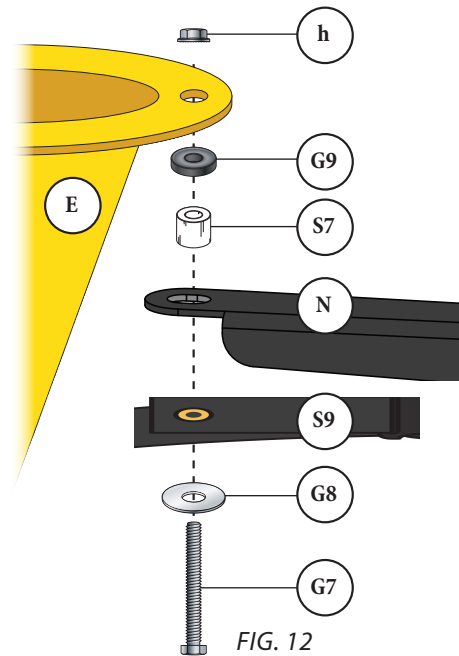

FIG. 12
- 12** Secure the Left Brace (N) to the Cyclone (E) using a 2-1/2" Hex Head Bolt (G7), Flat Washer (G8), Nylon Spacer (S7), Rubber Washer (G9), and Whiz-Lock Nut (G10) as shown in [FIG. 12].